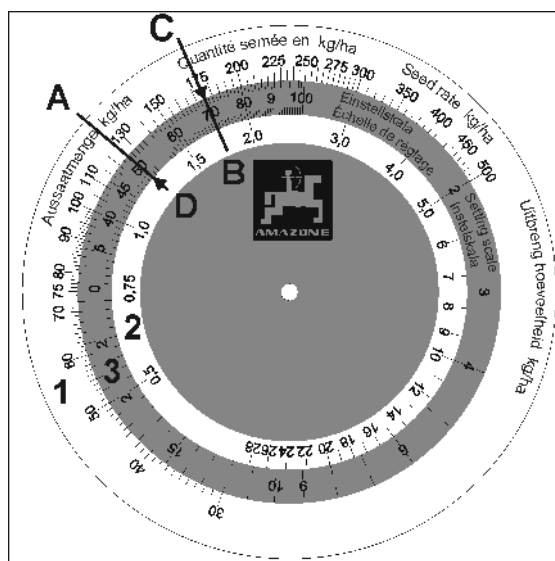

Fig. 40
The disc rule consists of three scales: One outer white scale (Fig. 40/1) for all seed rates above 30 kg/ha and an inner white scale (Fig. 40/2) for all seed rates below 30 kg/ha. On the central, coloured scale (Fig. 40/3) gearbox settings from 1 to 100 are printed.
2. Align the seed rate 125 kg/ha (Fig. 40/A) and the "gearbox setting position 50" (Fig. 40/B) on the disc rule.
3. Now read off the disc rule the gearbox setting figure for the desired seed rate of 175 kg/ha (Fig. 40/C). In our example that is the "gearbox setting position 70" (Fig. 40/D).
1. Prior to the emptying the seed hopper place collecting buckets below the openings of the emptying tubes (Fig. 40/1).